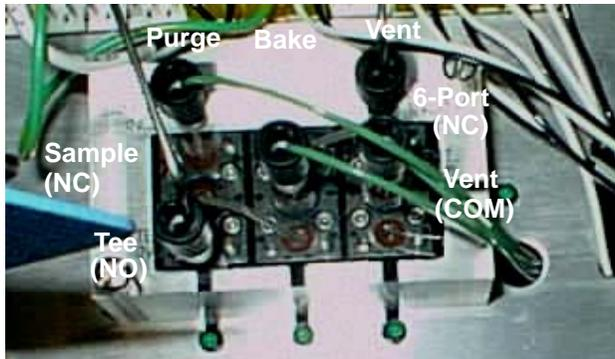

Figure 2-9: Concentrator Valves
5. **The 6-port Valve** (Figure 2-9) inside the valve oven has two settings that control the direction of sample and carrier gas flow through the concentrator.